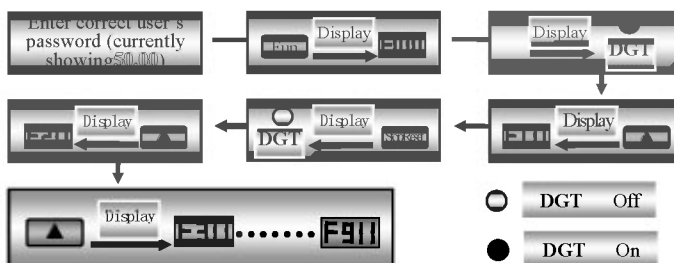

Fig 2-2 Switchover in a Code Group or between Different Code-Groups
e.g. when function code shows F111 and DGT indicators on, press “▲”/ “▼” key, function code will keep increasing or decreasing by degrees within F100~F160; press “stop/reset” key again, DGT indicator will be off. When pressing “▲”/ “▼” key, function codes will change circularly among the 10 code-groups, like F211, F311...FA11, F111.... Refer to Fig 2-2 (The sparkling “S0.00” is indicated the corresponding target frequency values).